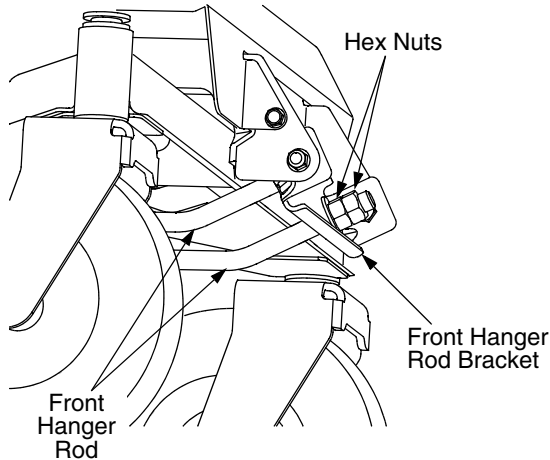

Figure 32
- From the front of the tractor, loosen the outer nuts on the deck front hanger rod, and turn them away from the inner nuts. See Figure 32.
- If the front of the deck was too low, turn the inner hex nuts clockwise against the hanger bracket to shorten the front hanger rod and raise the front of the deck. See Figure 32.